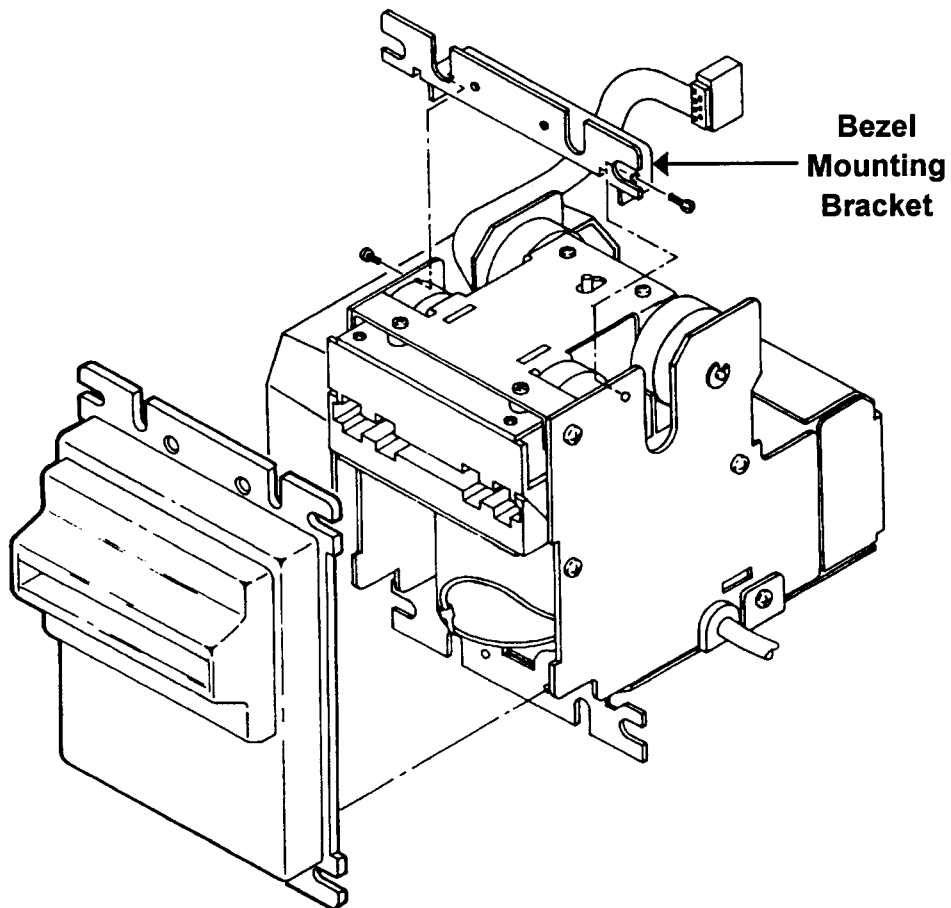

Figure 10. Remove the Bezel Mounting Bracket
- Remove the two screws. (Refer to Figure 10.)
- Remove the two screws. (Refer to Figure 10. )